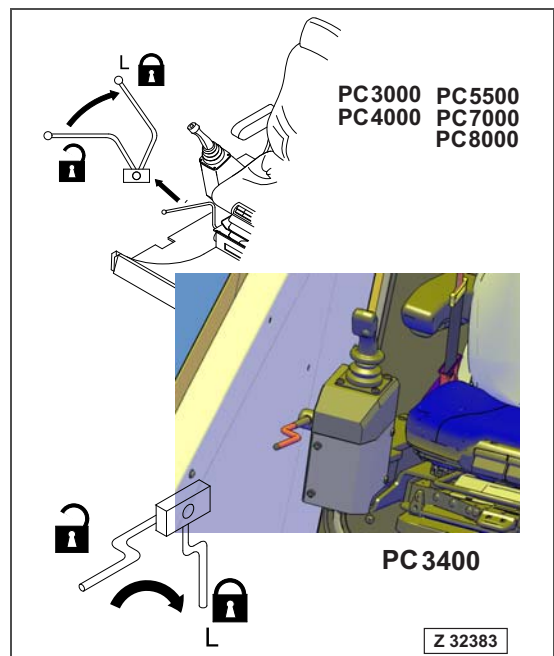

Fig. 2-38
- Turn the main key switch to the ON position. Operate the work equipment control lever back and forth, left and right at the full stroke 2 to 3 times to eliminate the remaining internal pressure in the hydraulic circuit, and then push up lock lever (Fig. 2-38) to the LOCK position (L).